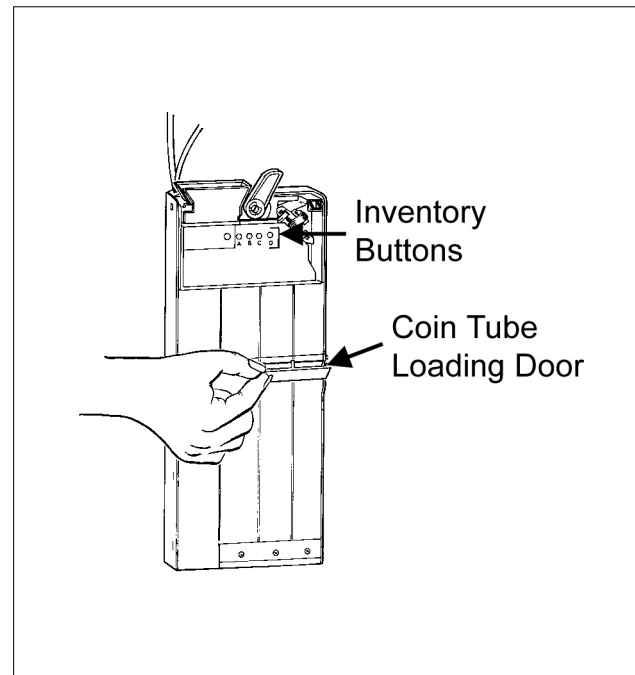

Figure 4
9. If coin tube loading door is not locked (additional option) hand load the four coin tubes (see Figure 4). Tilting the coin tube loading door open, load the four coin tubes. Make sure all coins lie flat and that each tube is filled at least to the 20% mark. Payout at least two coins from each tube to set tube counters.